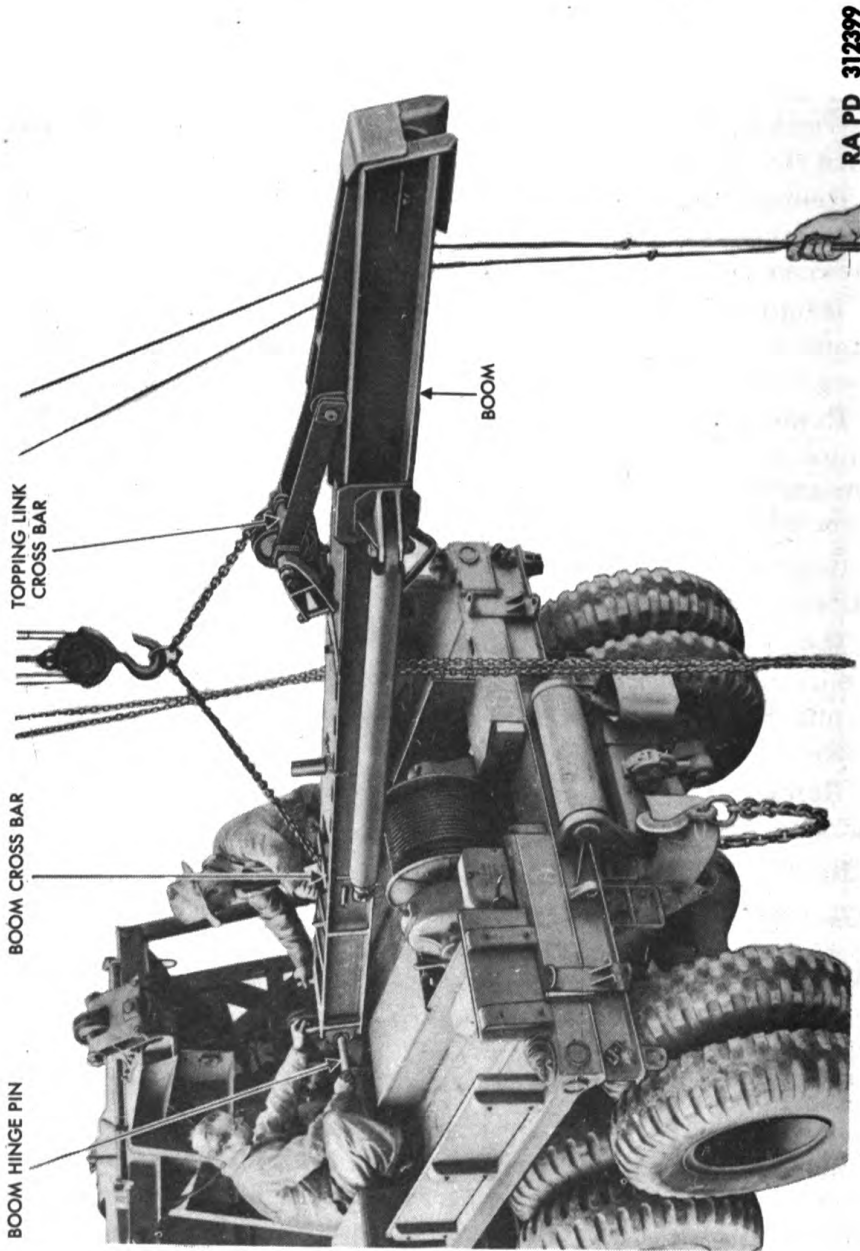

Figure 4 — Removing Boom
a. Locate Lifting Chain on Boom. Using a chain fall and an 84-inch chain with a hook on each end, hook into the cross bars on the topping link and boom proper. Position the hook of the chain fall 34 inches from the topping link end and 5 feet from the boom end (fig. 4). *NOTE: This positioning will balance the boom for a safe and easy removal.*
b. Remove Boom. The boom is anchored to the boom pivot by means of a 1 1/2-inch bolt. Remove cotter pin and castellated nut, and drive the hinge pin to the left of the vehicle to remove (fig. 4). The hinge pin bushings may come out of the boom when the pin is removed (fig. 19). Raise the boom clear of the boom pivot and remove from vehicle.